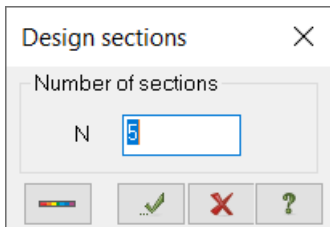

Figure 19.16 **Design sections** dialog box
- ⇒ In the **Design sections** dialog box (see Fig.19.16), specify number of sections $N = 5$.